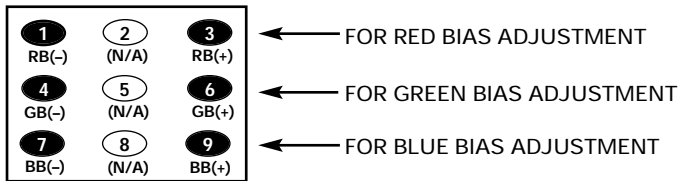

Figure 5. Remote Control Number keys' functions in Service Menu NO. 73
10. Raise each Bias Level with 3, 6, and 9 keys to obtain just visible white line. (See Figure 5.)